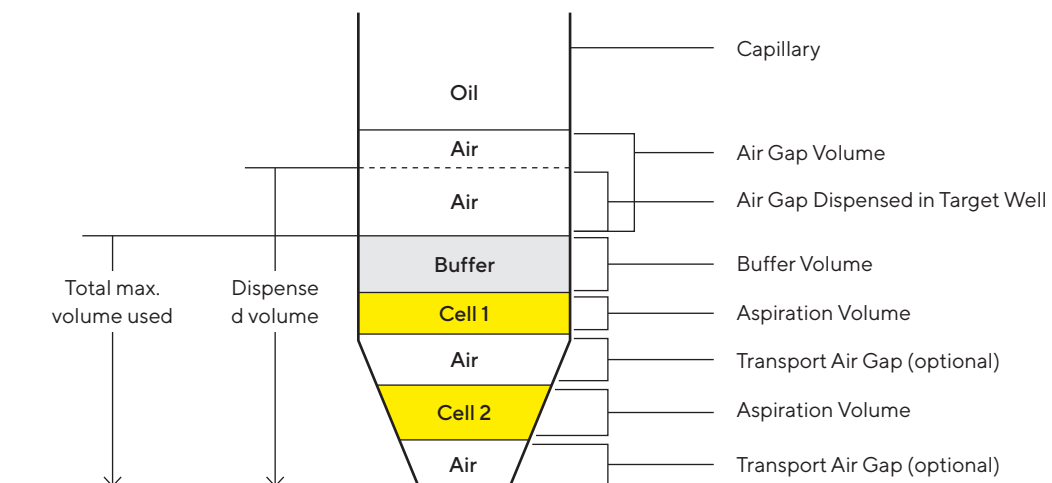

Figure 3: Schematic of the layers within a capillary which ensure hassle and contamination-free picking
- **Cell and Colony Pooling** – sequential aspiration of multiple objects, cells or colonies into the same well (Fig. 3).
Capillary aspiration consists of 6 user-defined variables (Fig. 3), all of which can be individually adjusted depending on research application or specific assay requirements.